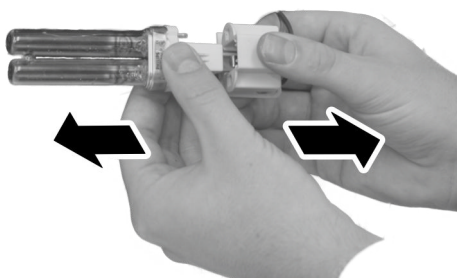

Fig. 35: Pulling out the UV lamp
5. ➔ Pull the old UV lamp out of the holder (Fig. 35).